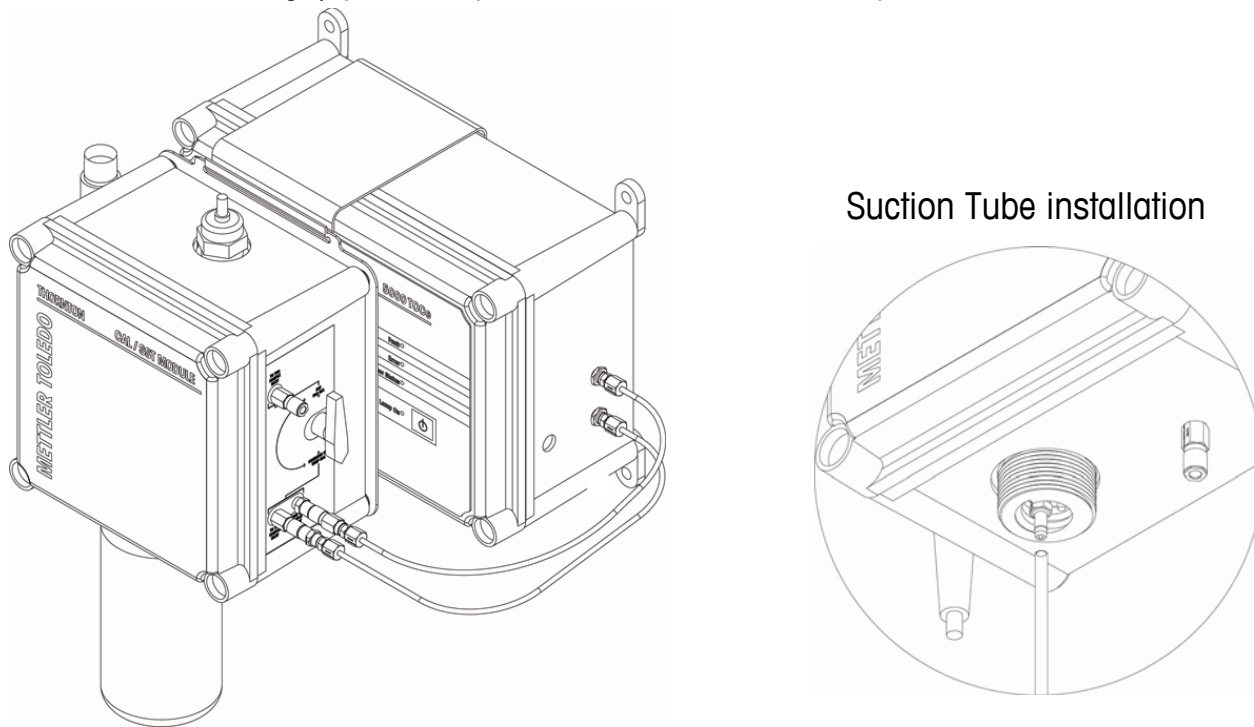

Figure 1. CAL/SST Module Setup for Flow, Temperature and Conductivity
1. Remove the mounting bracket from the carrying case and place on top of the 5000TOCi Sensor to be tested. See Figure 1.
6. Set selector valve on CAL/SST pump module to "Cond/Res CAL and Temp CAL" position. Figure 1 shows the proper installation of the CAL/SST pump module.
10. Wearing clean protective gloves to avoid contamination, insert a silicone suction tube onto the stainless steel suction fitting located in the bottle receptacle as shown in Figure 1. A fresh suction tube should be used for each calibration. Protective gloves and a replacement suction tube are provided with each solution kit.
5. Set selector valve on CAL/SST pump module to "SST, TOC CAL" position. Figure 1 shows the proper installation of the CAL/SST pump module.